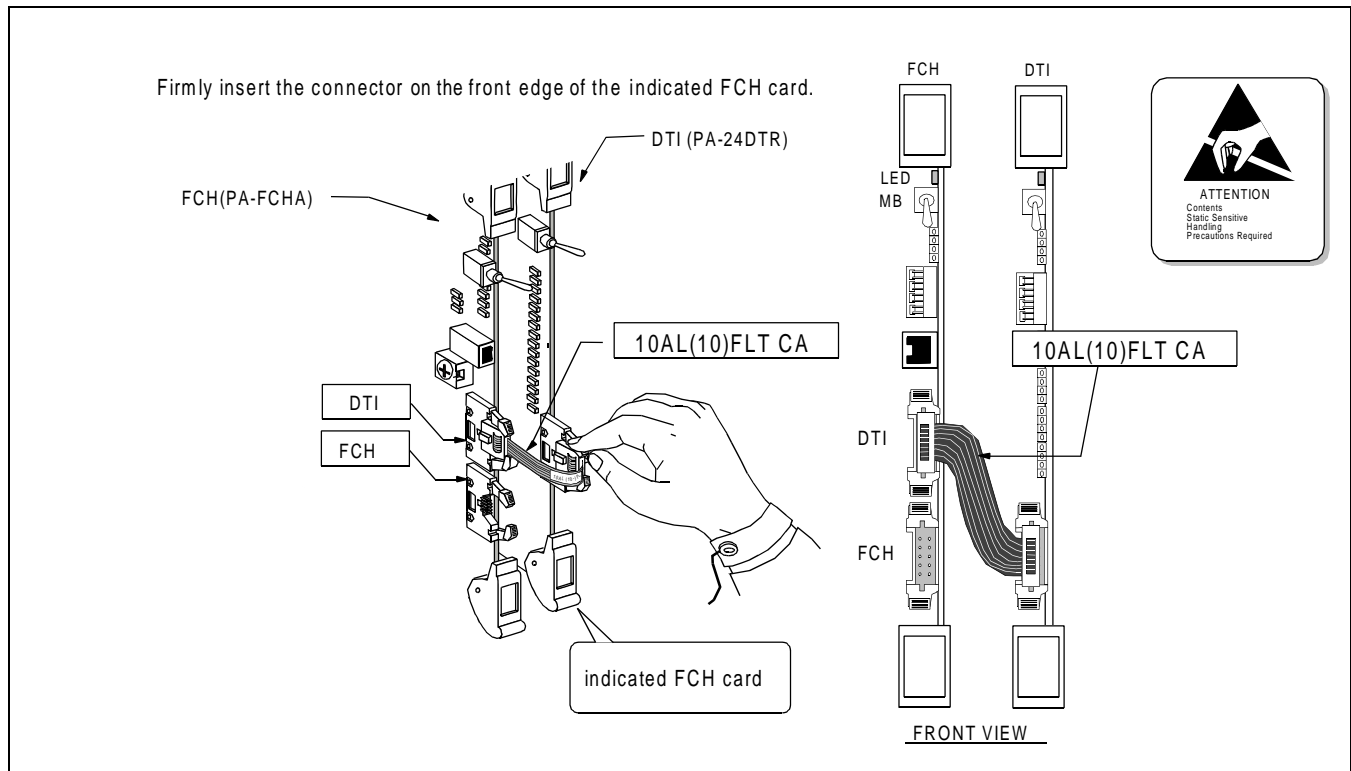

Figure 7-10 FCH-DTI Connection
STEP 1: Make sure that the front cable is securely inserted. See Figure 7-10.
STEP 4: Replace the front cable labeled 10AL (10) FLT CA, since the cable is suspected as faulty.
STEP 1: Make sure that the front cable is securely inserted. (See Figure 7-10.)